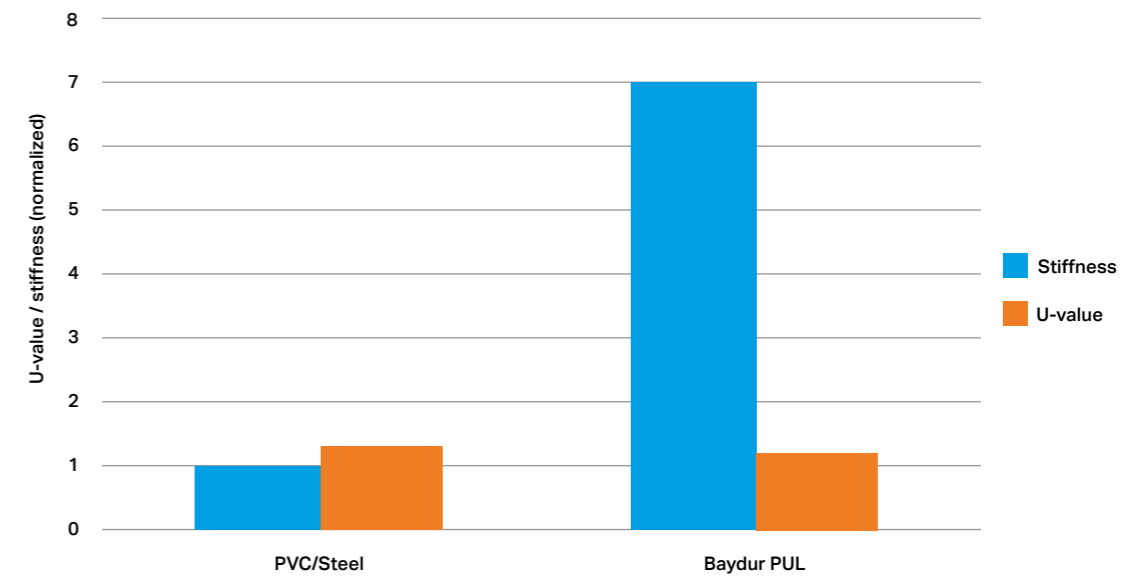

Fig. 9 Comparison of stiffness and insulation performance for the PVC/steel and the pultruded window profiles
4. The PU pultrusion profile performance was evaluated and compared with the PVC window profile by Profine, which involved calculating the stiffness and the thermal conductivity, as well as evaluating dimensional accuracy (Fig. 9). The results showed that the PU pultruded profile had a seven times higher stiffness in the wind load direction compared to PVC/steel, without any sacrifice in thermal conductivity. This means a pultrusion based window could carry significantly more load or, when focusing on optimizing the overall window design with regards to the pultrusion performance, enable a slimmer design at improved thermal conductivity.